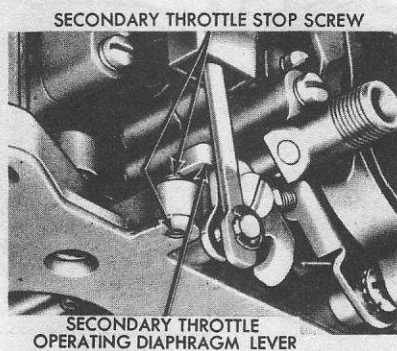

Fig. 3.42 Adjusting the secondary throttle plate (Holley 4150C carburetor) (Sec. 17)
- 18 Turn the secondary throttle shaft lever adjusting screw (stop screw) out until the secondary throttle plates stick in the throttle bores (Fig. 3.42).